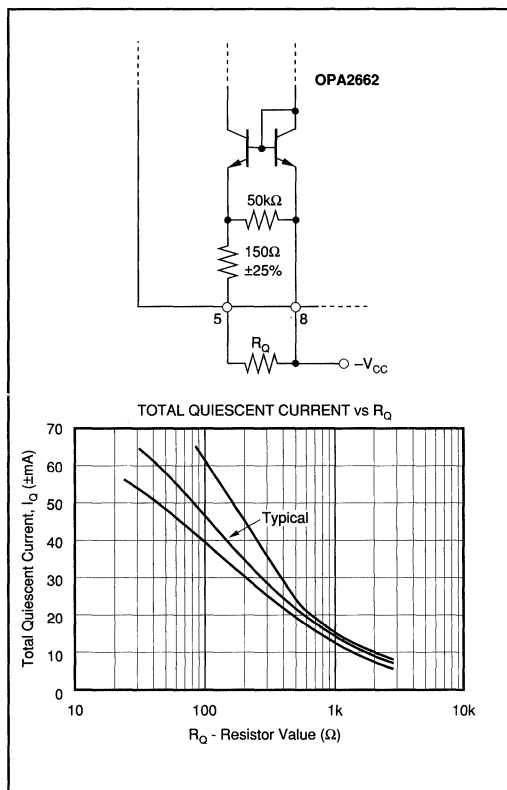
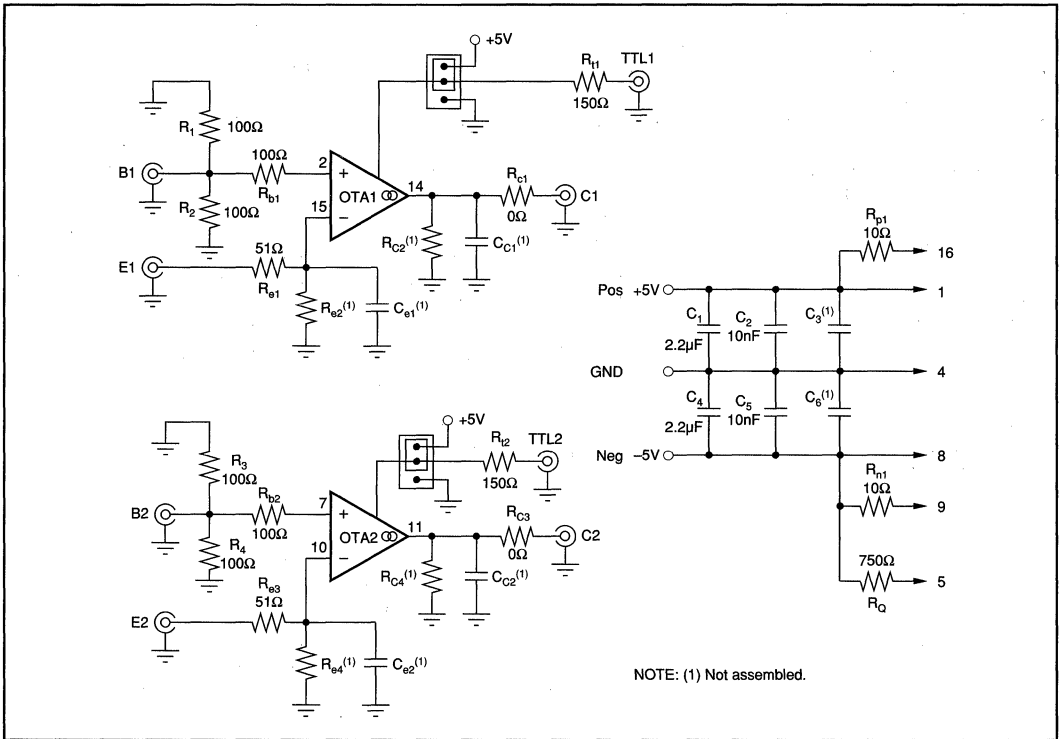

FIGURE 7. Quiescent Current Setting.
FIGURE 8. Circuit Schematic of the DEM-OPA2662-1GC.
The quiescent current of the OPA2662 can be varied by connecting a user selectable external resistor, R_Q , between pin 5 and $-V_{CC}$. The quiescent current affects the operating currents of both OTA sections simultaneously, controlling the bandwidth and the AC-behavior as well as the transconductance. The typical performance curves illustrate the relationship of the quiescent current versus the R_Q and the transconductance, g_M . The OPA2662 is specified at a typical quiescent current of $\pm 17\text{mA}$. This is set by a resistor R_Q of 750Ω at 25°C ambient temperature. The useful range for the I_Q is from $\pm 3\text{mA}$ to $\pm 65\text{mA}$ (see Figure 7). The application circuits do not always show the resistor R_Q , but it is required for proper operation. With a fixed resistor, the quiescent current increases with increasing temperature, keeping the transconductance and AC-behavior constant. Figure 7 shows the internal current source circuitry. A resistor with a value of 150Ω is used to limit the current if pin 5 is shorted to $-V_{CC}$. This resistor has a relative accuracy of $\pm 25\%$ which causes an increasing deviation from the typical R_Q vs I_Q curve at decreasing R_Q values.
- Some applications may require a limitation for the maximum output current to flow. This can be achieved by adding a resistor (about 10Ω) between supply lines 1 and 16, and, 8 and 9 (see also Figure 8). The tradeoff of this technique is a reduced output voltage swing. This is due to the voltage drop across the resistors caused by both the collector and the emitter currents.
A completely assembled and tested demonstration board is available for the OPA2662 to speed prototyping. This board allows fast and easy performance testing during the design phase and for product qualification. The user can qualify the most important parameters within hours instead of days, while avoiding the hassles of an optimized board layout and power supply bypassing. The complete AC characterization was performed with the same type. Figure 7 shows the schematic and Figure 8 the silkscreen and double-sided layout. Request DEM-OPA2662-1GC to test the operational amplifier in the 16-pin DIP package.